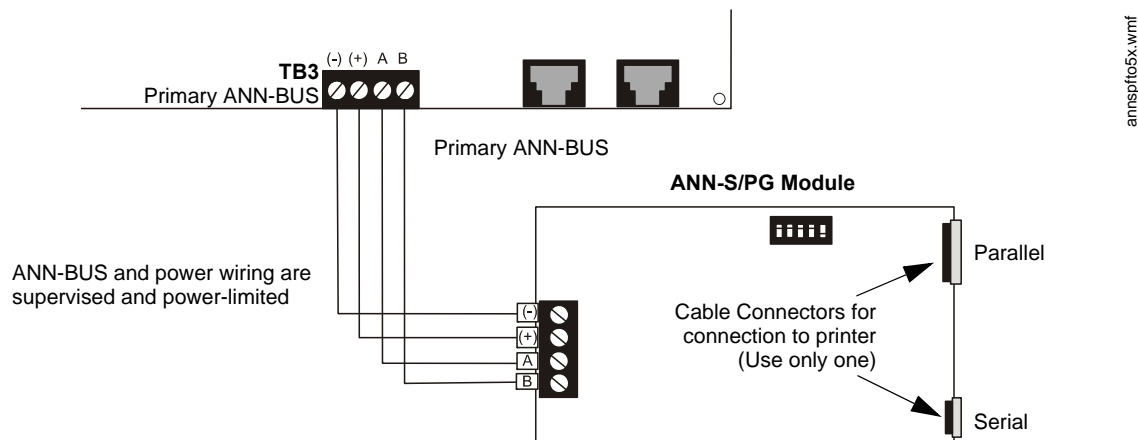

Figure 2.23 ANN-S/PG Connection to FACP
2. Connect the ANN-S/PG to the FACP as illustrated in Figure 2.23.
5. Connect a printer to the ANN-S/PG Parallel and/or Serial connectors (refer to Figure 2.23 on page 49).